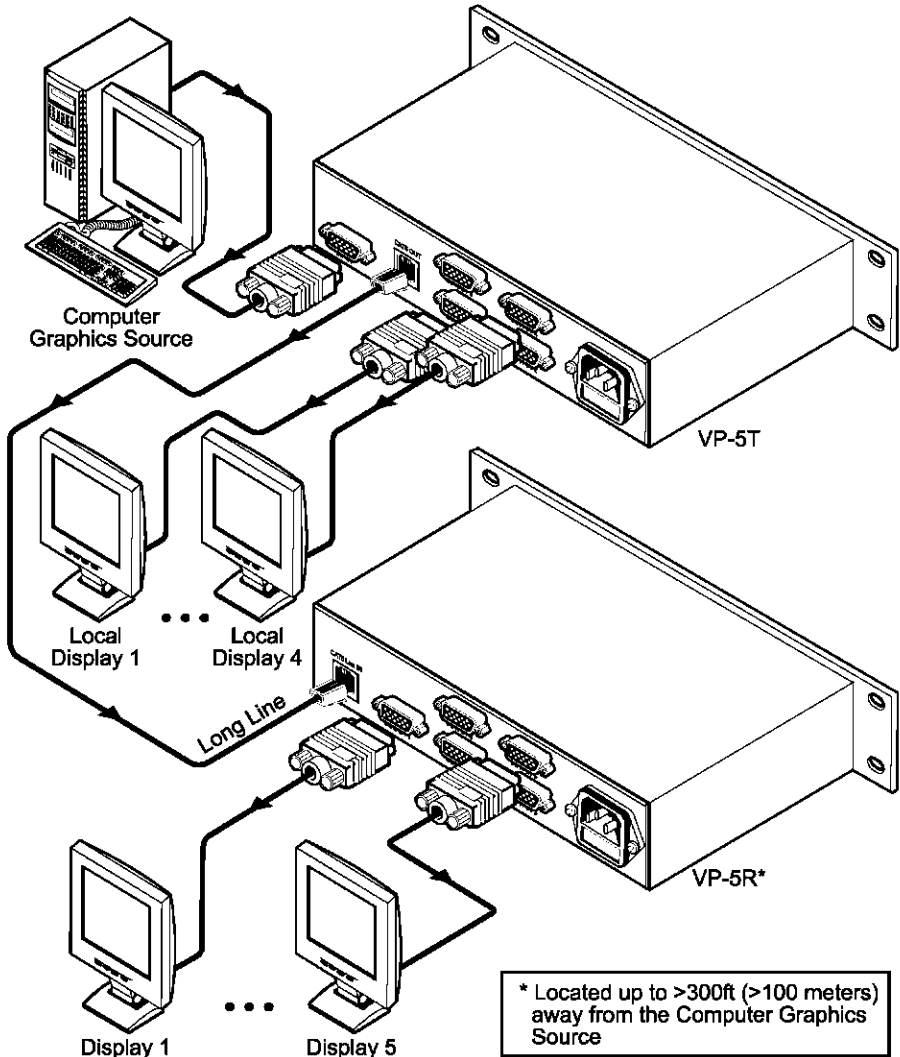

Figure 12: Connecting the VP-5T and the VP-5R
To connect the **VP-5T** with the **VP-5R**, as the example in Figure 12 illustrates, do the following:
4. Connect the power cord2 (not illustrated in Figure 12) to the **VP-5T**, and connect the other power cord2 to the **VP-5R**.